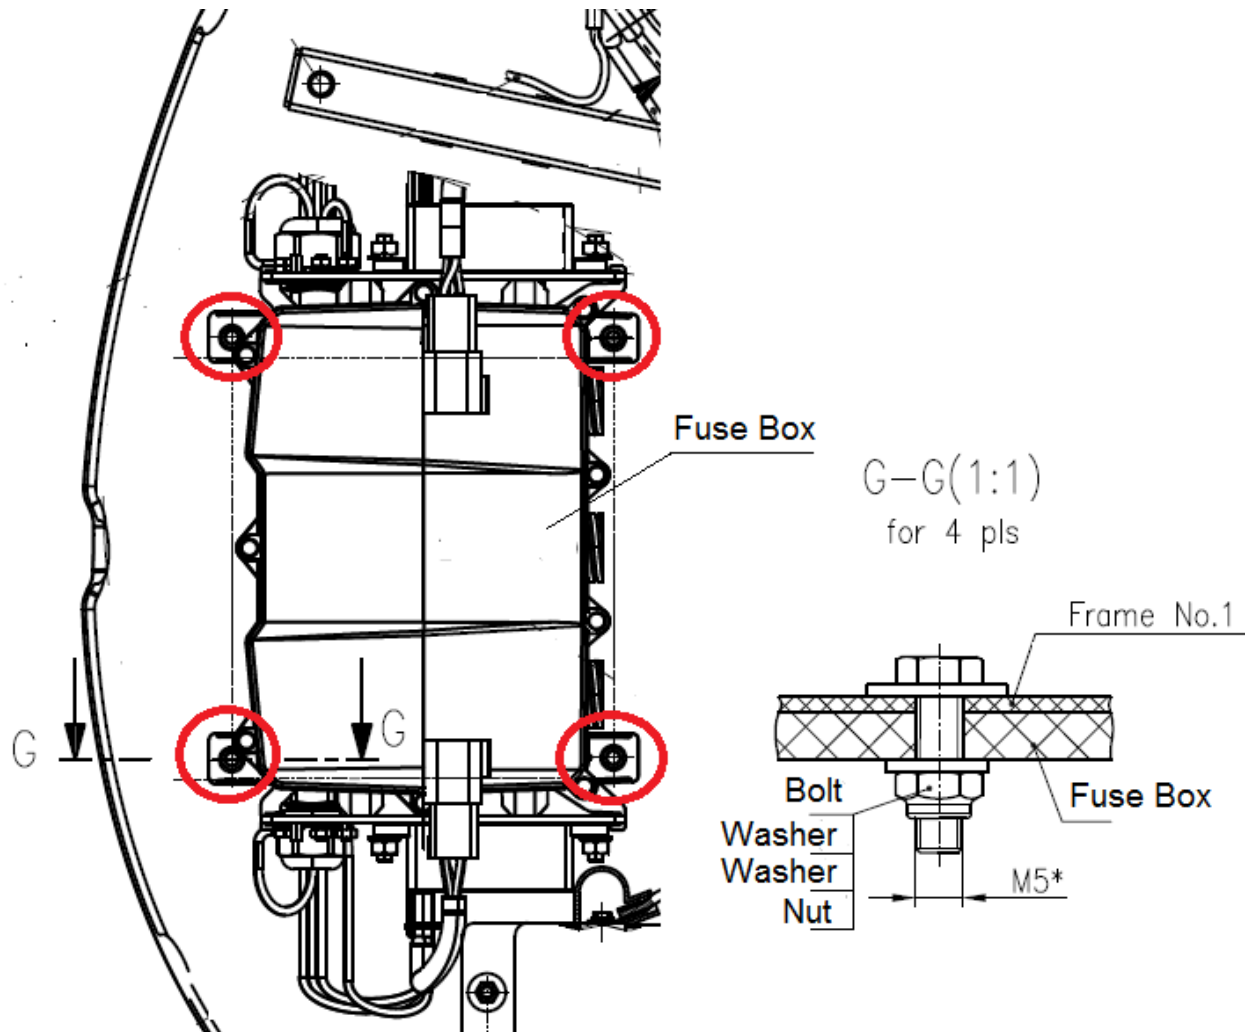

Fig. 2
3. Remove the attachment screws of the fuse box as marked on Fig. 2 and remove fuse box from aircraft.